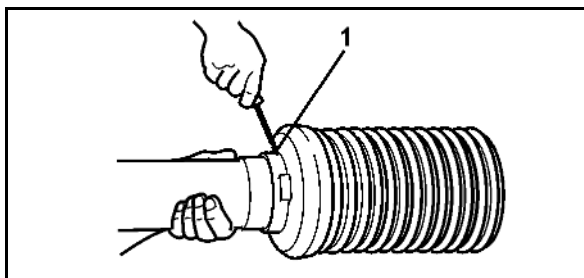

Fig. 55
2. Remove the locking screw (Fig. 55/1) from the PTO shaft guard.